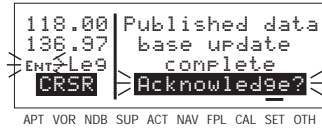

Figure 2-6
- The KLX 135A will indicate when the data base update is complete as shown in figure 2-6. You may either turn the KLX 135A off at this point or press **ENT** to restart the KLX 135A.